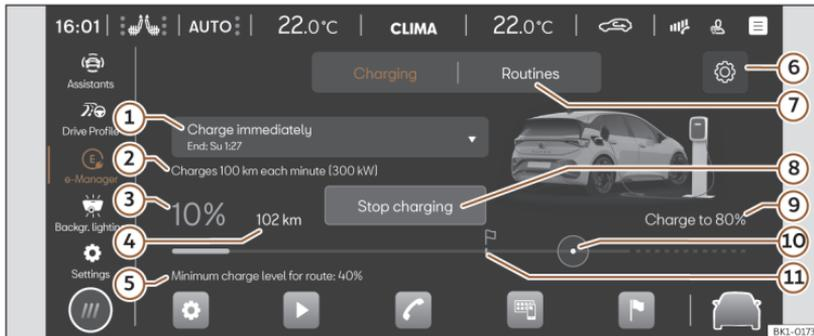

Fig. 74 In the infotainment system: e-Manager menu in the vehicle settings.
2. Press the  >>> **Fig. 74**  button.